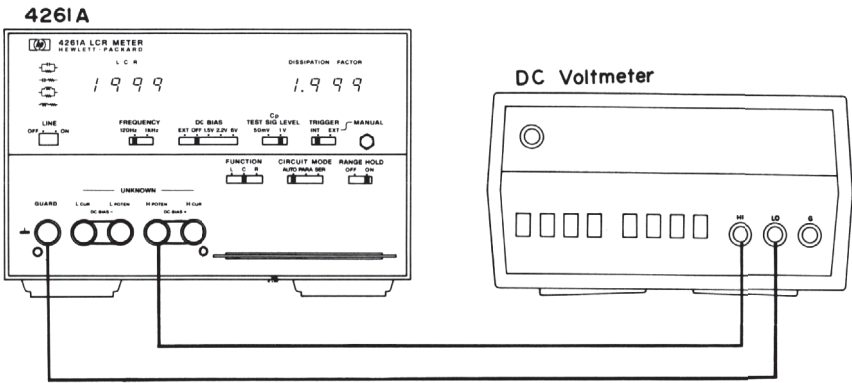

Figure 4-6. Internal DC Bias Source Test Setup.
1. Connect DC Voltmeter to 4261A UNKNOWN terminals as shown in Figure 4-6.